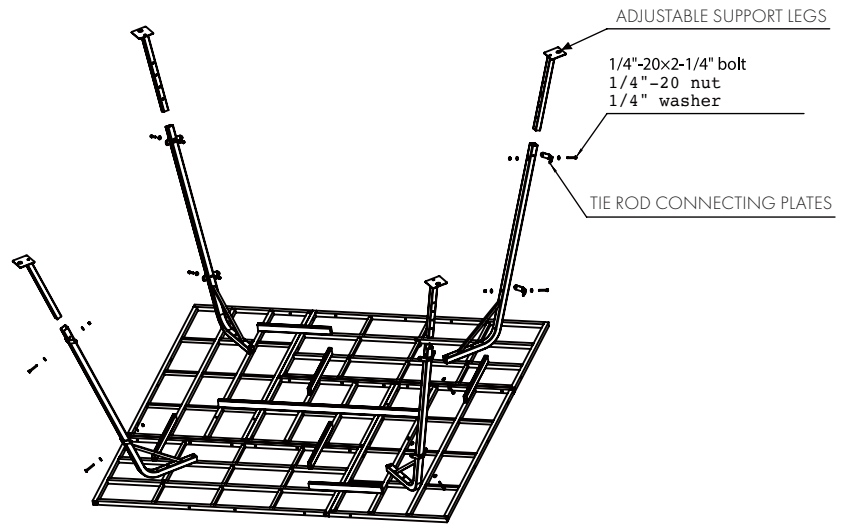

FIGURE 4
Attach eight **TIE ROD CONNECTING PLATES (#6)** and four **LEG ADJUSTMENTS (#7)** to the four **UPPER LEGS** by using (8) 1/4"-20 x 2-1/4" bolts, (8) 1/4" lock nuts and (16) 1/4" flat washers (Figure 4). **Be sure to not over tighten.**